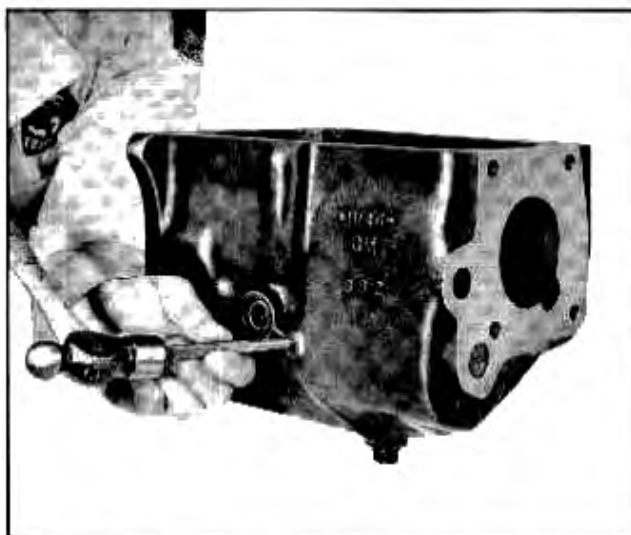

Fig. 7-19 Driving Reverse Idler Gear Shaft Lock Pin Into Shaft
18. Drive reverse idler gear shaft lock pin into shaft and drive shaft out of rear of case (Fig. 7-19). Drive lock pin out of shaft. NOTE: Slot on end of shaft is for aid in locating drive pin hole on installation.